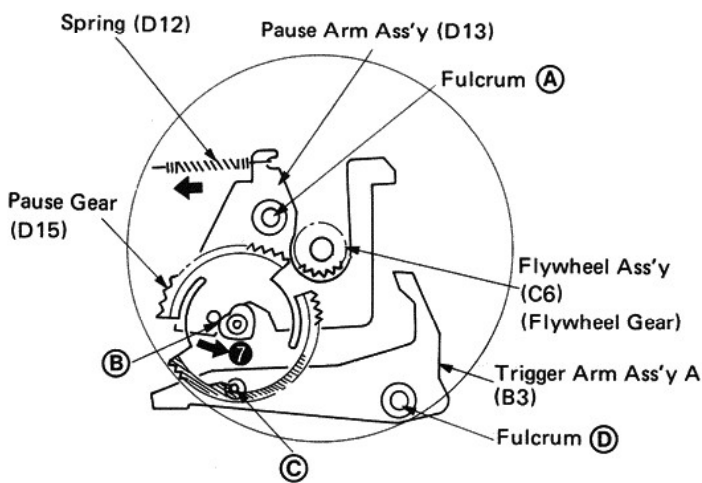

Fig. 6
In the PLAY mode the pause arm assembly (D13) is pulled by the spring (D12) pivoting on fulcrum (A). The pause gear (D15) is pushed in the ⑦ direction at point (B) and locked by the trigger arm assembly (B3) at point (C). Thus the pause gear does not rotate. (Fig. 6)